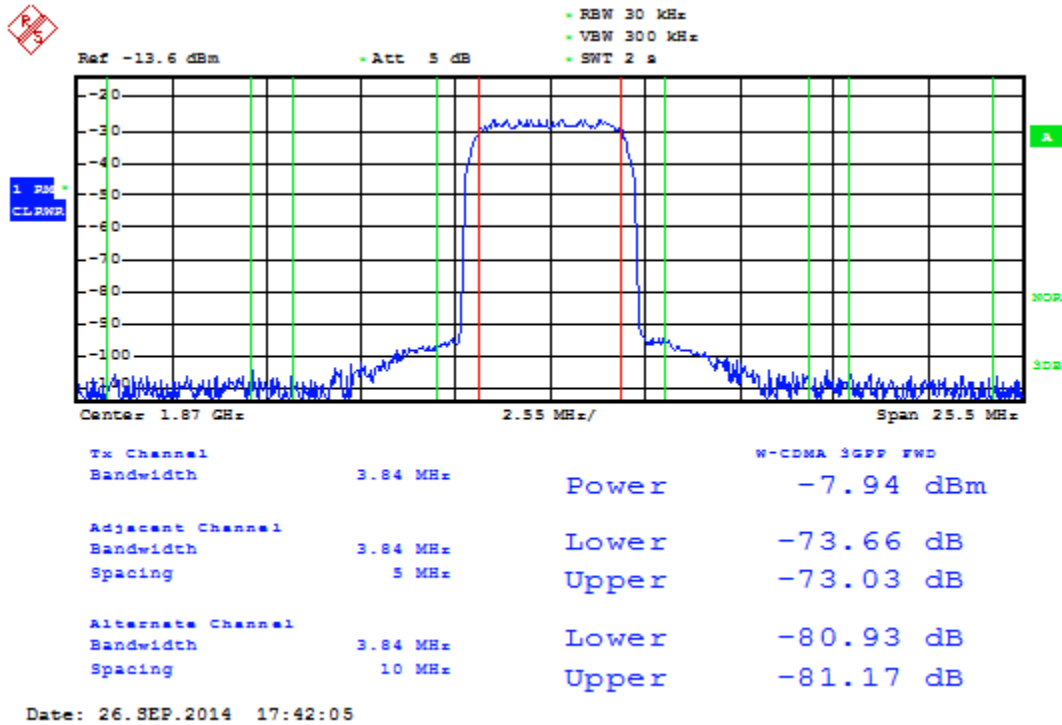

Figure 9. TRF3722 Quick Start Result
10. You should now see a WCDMA signal centered at 1870 MHz on the spectrum analyzer, as shown in Figure 9.